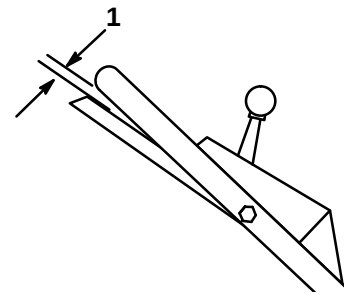

Figure 22
3. CHECK ADJUSTMENT—Slowly pull mower backward while control bar is gradually moved toward handle. Adjustment is correct when rear wheels stop turning and control bar is about one inch from handle (Fig. 22).